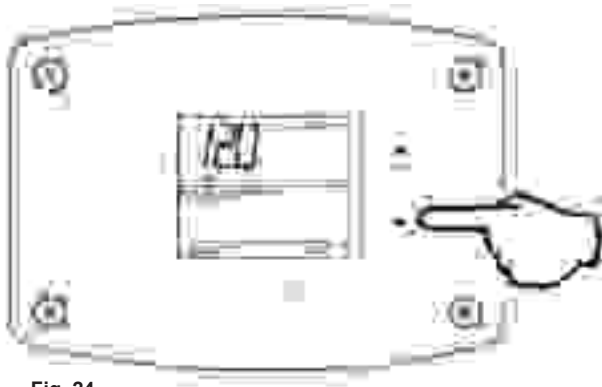

Fig. 24
1. Depress and hold 'Temperature Down' button until desired setpoint temperature appears in the display (Fig. 24).